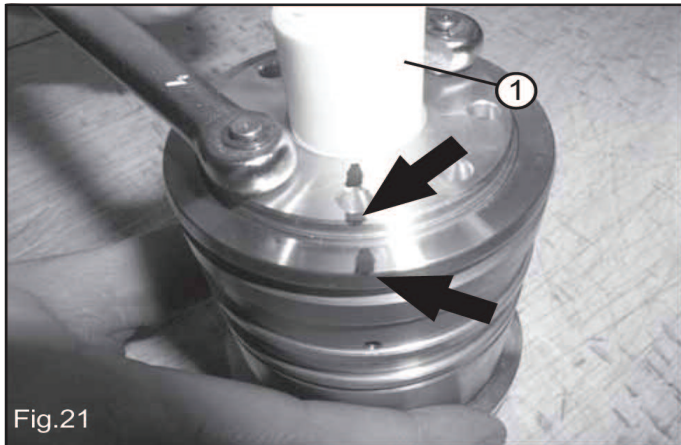

Fig.21
- Fit the plunger in the pumping unit (1, Fig. 21).
- Mark the position of any one of the 8 holes of the packing support referencing at the cylinder (see arrows Fig. 21).